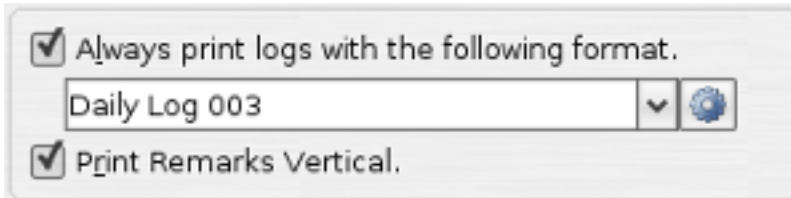

Figure 7.7. Log Format Settings
2. In the Log Format section, make sure the box "Always print logs with the following format" is checked. Then in the box below select the desired default log format, see Figure 7.7, "Log Format Settings".
2. Under the log format section see Figure 7.7, "Log Format Settings" there is a checkbox label "Print Remarks Vertical". When this box is checked the log entries will be printed vertical, when the box is NOT checked the log entries will be printed horizontal in the remarks section.